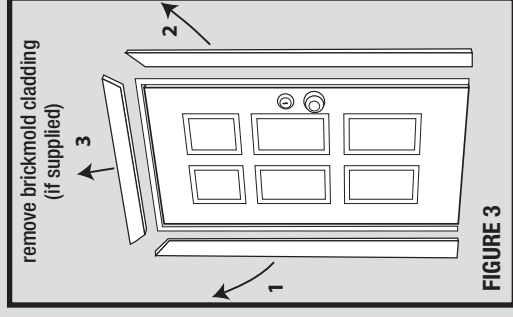

FIGURE 3
- 3.1.1. If supplied, remove aluminum cladding from brick mold. (figure 3)